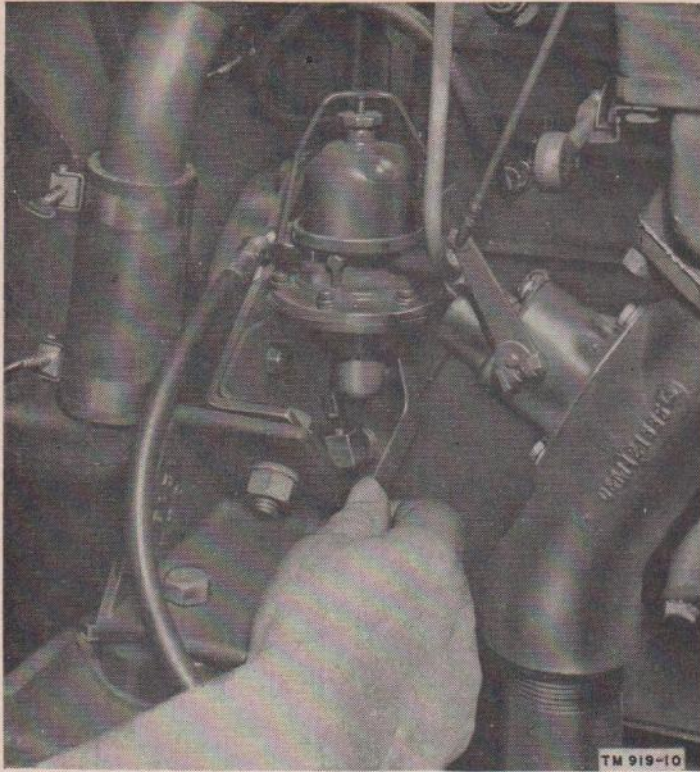

Figure 10. Priming fuel pump.
a. Connect the fuel supply to the unit as instructed in paragraph 12c. Manually crank the engine a few times to make sure that all parts move freely. Operate the hand lever on the fuel pump (fig. 10) to see if it operates freely. If the fuel pump hand lever cannot be moved, crank the engine one complete revolution. If the engine camshaft is in a position where the fuel pump arm is held up by the cam, the fuel pump hand lever cannot be operated. When the fuel pump hand lever can be moved freely, move it up and down until pressure built up within the fuel system prevents further operation of the hand lever. Now push the hand lever down and leave it there. The fuel pump will not operate unless this lever is in the down position. Set the air-inlet gage on the air cleaner at the correct position for the temperature in which the unit is to be operated (above 50°F. or below 50°F.).